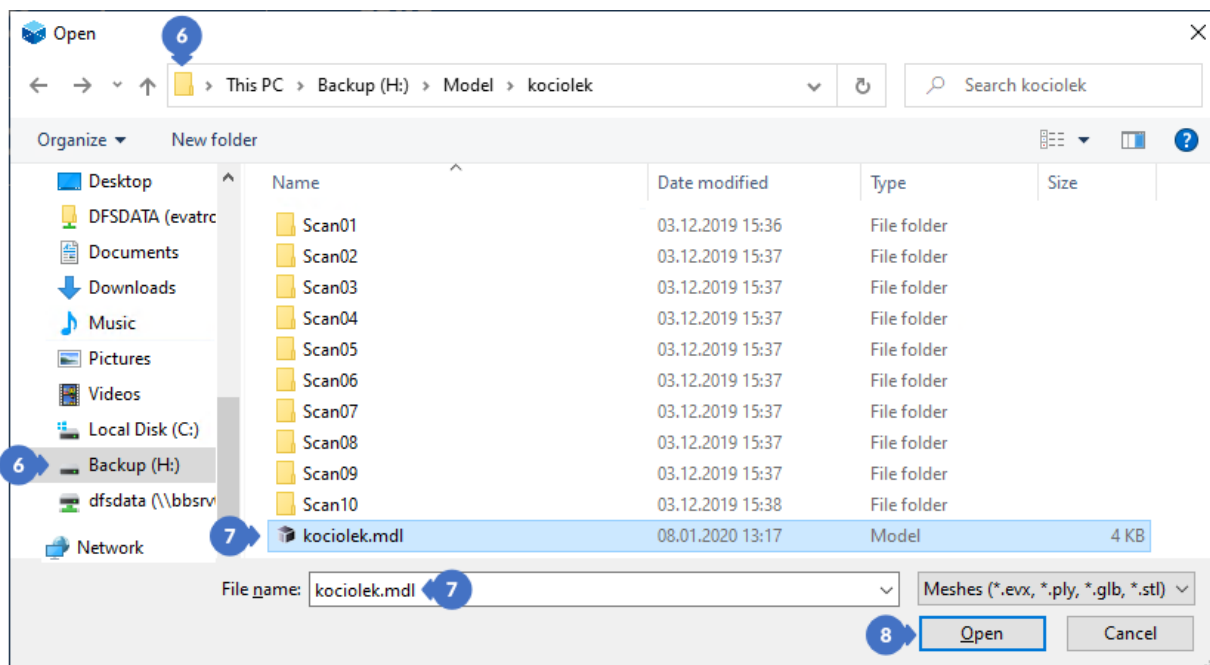

Figure 192. Opening an existing project – select project window
In the window, find the path to the project (6) and select the file with the *.mdl* extension (7) and then click on the *Open* button (8) (Figure 192). Selecting a file with the *.evx*, *.ply*, *.glb*, *.stl* extension will bring up a window for creating a new project.